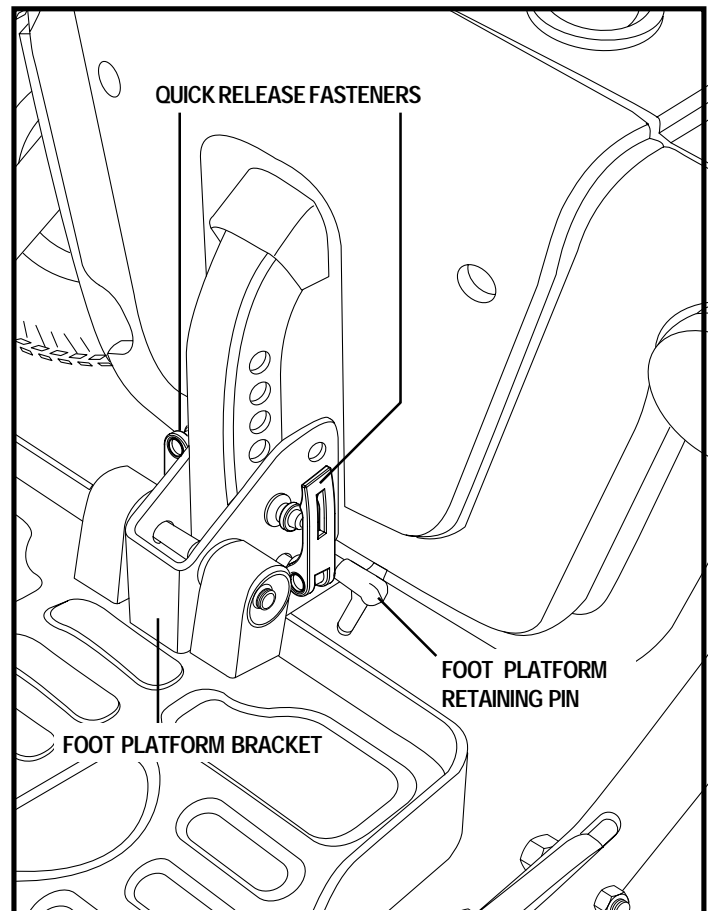
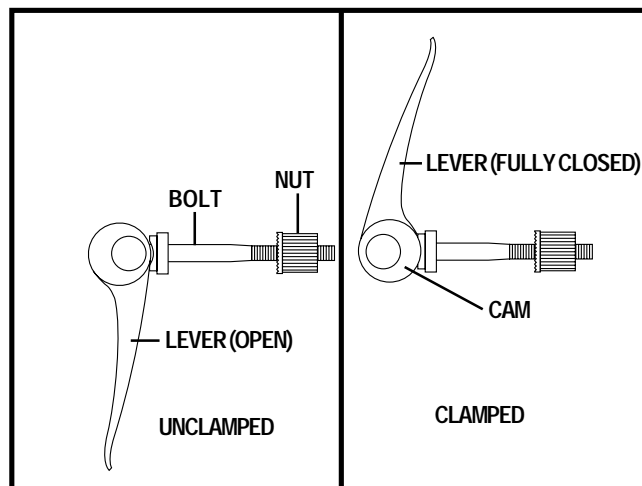

Figure 19. Foot Platform Adjustment
Figure 20. Quick Release Fastener Operation
1. Remove the quick release fasteners from the foot platform bracket. See figure 19.
1. Remove the fasteners from the foot platform bracket. See figure 19.
Quick Release Fasteners: The foot platform is attached to the power base with two quick release fasteners. See figure 19. Each quick release fastener consists of a bolt, a lever, and a nut. See figure 20. The lever has a cam on the end that allows it to clamp into place. The quick release fastener has two states: clamped and unclamped. When the lever is open, the quick release fastener is unclamped. When the lever is closed, the quick release fastener is clamped.